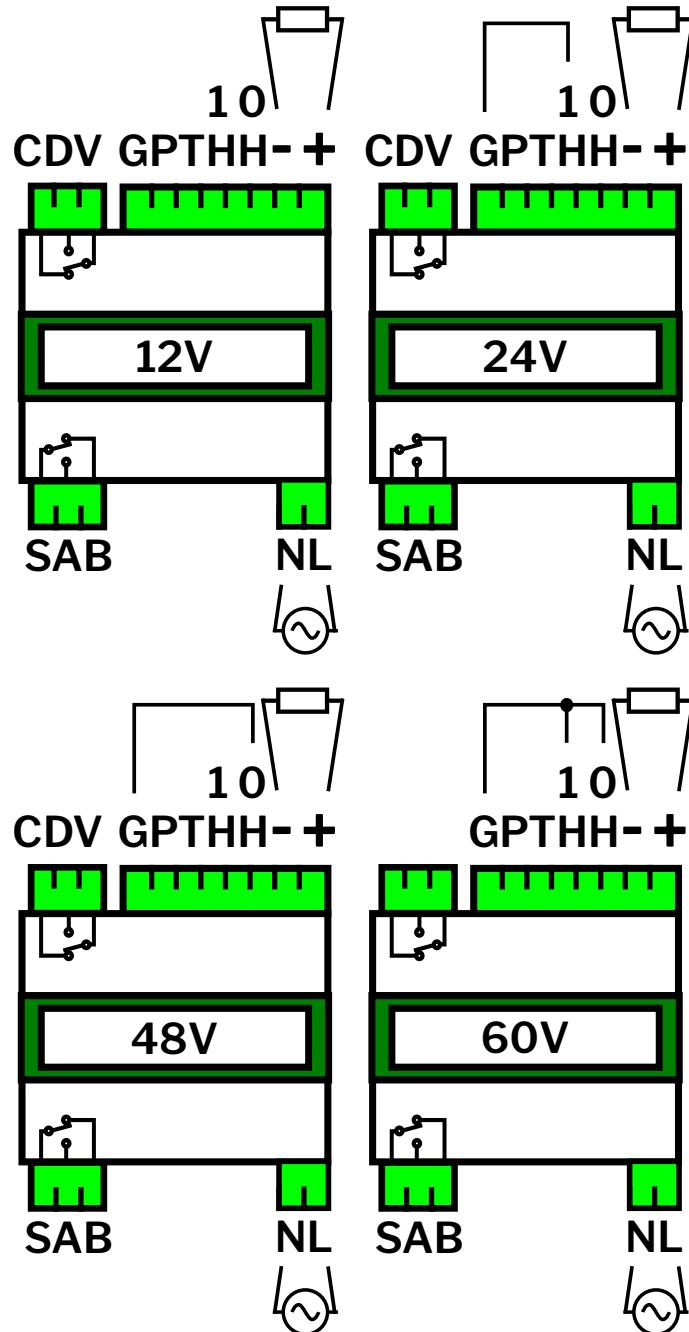

Figure 2: Connection diagram for obtaining different output voltages. The output voltages are denoted inside the subfigure.
Figure 2 showcases basic application scenarios employing the DIG-CCCV-15W-VAR. In these examples, the alternating current (AC) voltage source symbols represent the input, while resistor symbols represent the load."